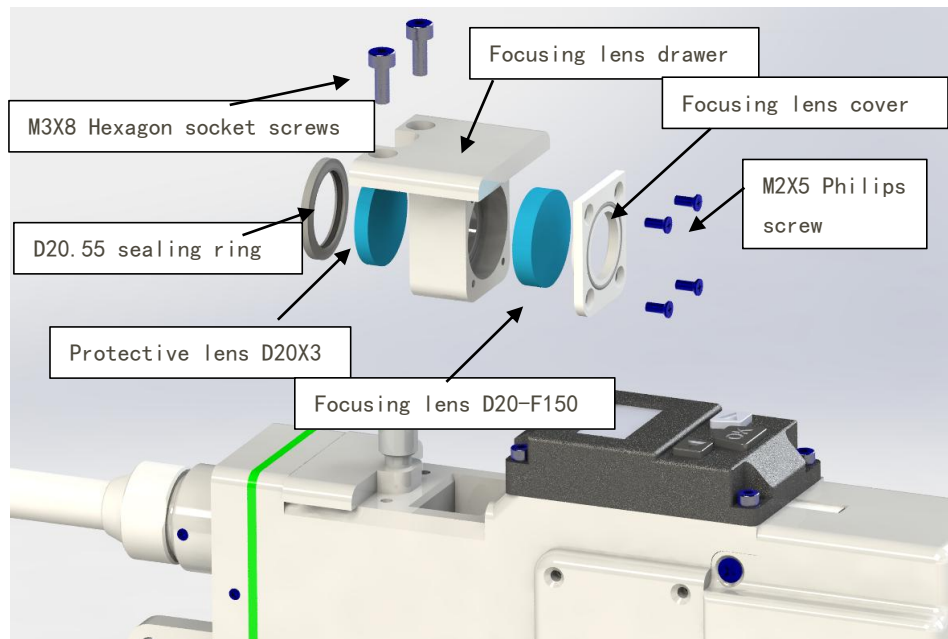

Figure 11 Split diagram of upper protection lens and focusing lens on HW970
(1) As shown in Figure 11, loosen two M3X8 Hexagon socket screws, pinch both sides of the drawer-type lens holder and slowly pull out the focusing lens drawer;
(2) Remove focusing lens: use a small cross screw to loosen four M2X5 Phillips screws, remove the focusing lens cover; take out the focusing lens D20-F150
(3) Remove the protective lens: carefully remove the D20.55 sealing ring, and take out the protective lens D20X3.
(4) Install the cleaned (or replaced) lens into the focus lens drawer
(5) Reinstall the focusing lens cover and D20.55 sealing ring.
(6) Reinsert the focusing lens drawer back into the welding head, and tighten the locking screw.